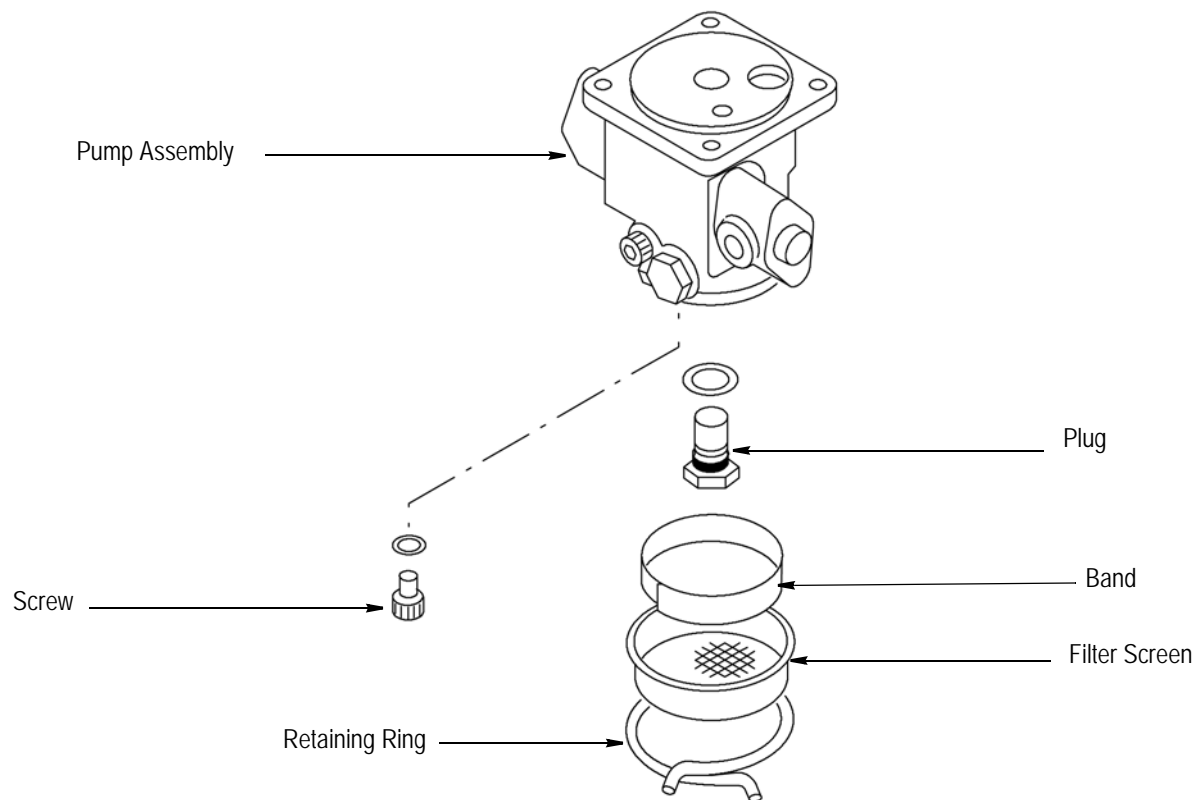

Figure 12
- 2) Refer to Figure 12, and remove the retaining ring, band, and filter screen.
4. Refer to Figure 12. Remove the retaining ring, band, and filter screen, and then tighten screw and plug.